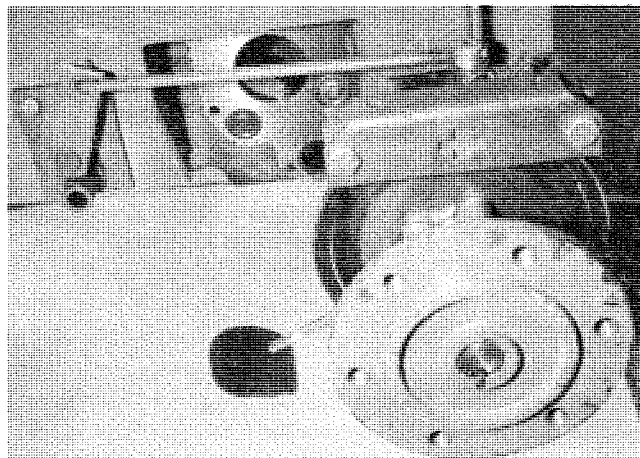

FIGURE 4
Bolt an identical part on the left side as shown in Fig. 4 using the hardware shown in Fig. 6.
Install rod, item 34 on the left side of tractor as shown in Fig. 6 and Fig. 4. Fasten to arm assembly, item 32 with cotter pin, item 9 and washer, item 8.